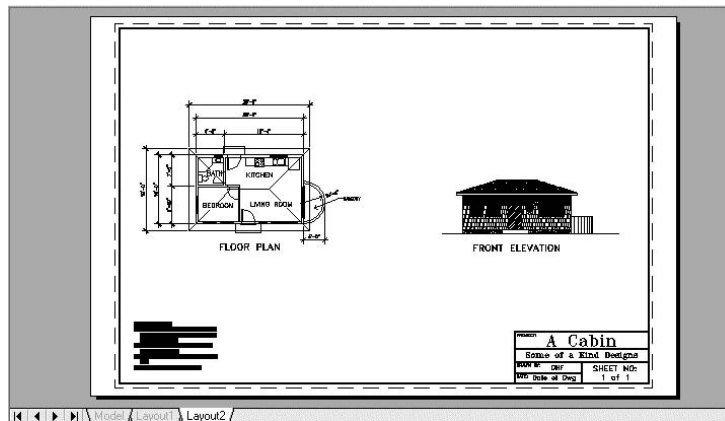

FIGURE 13.17: The completed 11" × 17" drawing within Layout2
10. With the Tblk-L2 layer current, freeze the Vports-L2 layer (see Figure 13.17).